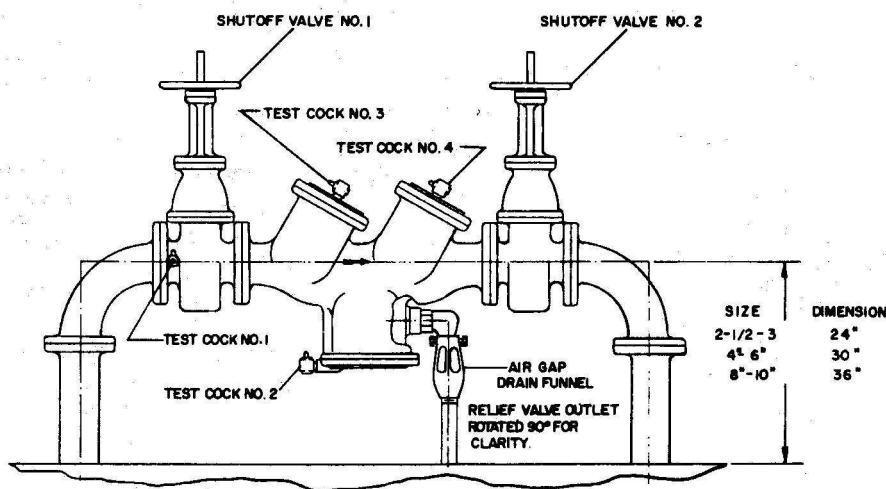

FIGURE 2
A. WARM CLIMATE ABOVE GROUND INSTALLATION (Fig. 2)
- C) Sufficient clearance must be provided beneath the device to permit removal of the relief valve and housing assemblies. Recommended pipe center line - floor (or ground) dimensions are shown on Figure 2.